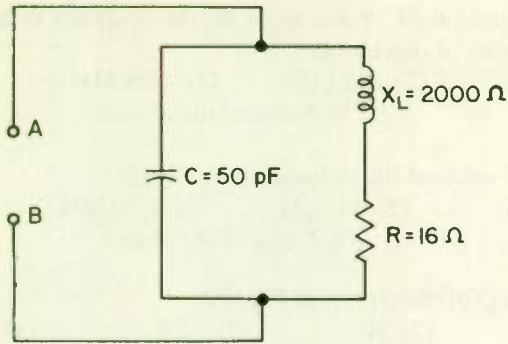

Fig. 39
- (1) It would increase.
- (2) It would decrease.
- (3) There would be no change.
24. The circuit of Fig. 39 is at resonance. Therefore, the reactance of the capacitor is
(1) 160 kHz (2) 442 kHz (3) 1.59 MHz (4) 2.61 MHz
(5) None of the above
26. What is the value of the inductance in Fig. 39?
(1) 200 μH (2) 641 μH (3) 50 mH (4) 140 mH
27. What is the Q of the circuit of Fig. 39?
(1) 12.3 (2) 50 (3) 72.4 (4) 125
28. Refer to Fig. 39. What is the total impedance as measured at input terminals AB ?
(1) 8 Ω (2) 16 Ω (3) 250,000 Ω (4) 2,400,000 Ω
29. If in Fig. 39 the line current is a constant 2 mA, what must be the voltage applied across terminals AB ?
(1) 2 mV (2) 20 V (3) 500 V (4) 4800 V
30. What is the circulating current of the resonant tank of Fig. 39?
(1) 2 mA (3) 0.025 A (5) 0.020 A
(2) 3.125 A (4) 31.25 A (6) 250 mA
31. What is the bandwidth of the circuit of Fig. 39, assuming the line current stays a constant 2 mA?